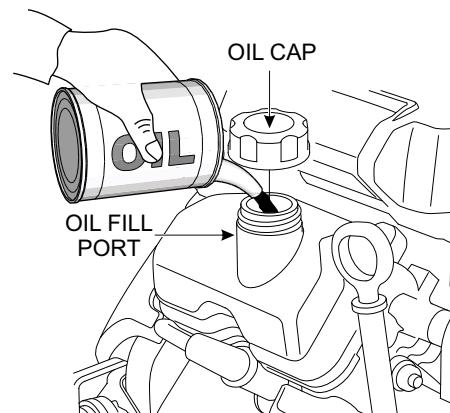

Figure 14. Engine Oil Filler Port
4. If the oil level is low, remove the oil filler cap (Figure 14) and fill to a safe operating level (max) as indicated by the dipstick. Fill with recommended type oil as listed in Table 6. Maximum oil capacity is 2.0 quarts (1.9 liters).